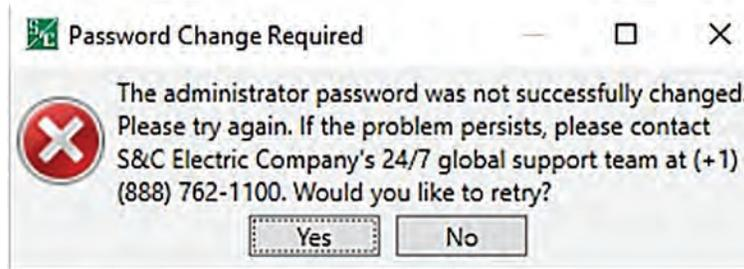

Figure 36. The Password Change Required dialog box.
STEP 4. If the password was not successfully changed, the Password Change Required dialog box opens. See Figure 36. Click on the **Yes** button to change the password again and go back to Step 2 on page 93.